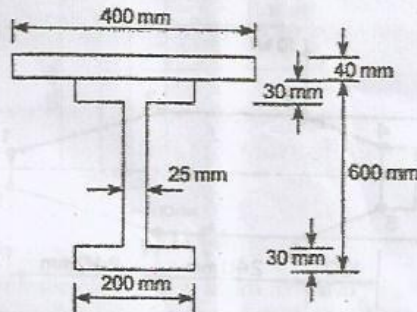

Fig. 16-(a).
16. a) A doubly symmetrical I-section beam is reinforced by a flat plate attached to the upper flange as shown in Figure 16-(a). If the resulting compound beam is subjected to a vertical shear load of 200 kN, determine the distribution of shear stress in the portion of the cross section that extends from the top of the plate to the neutral axis. Calculate also the shear force per unit length of beam resisted by the shear connection between the plate and the flange of the I-section beam.